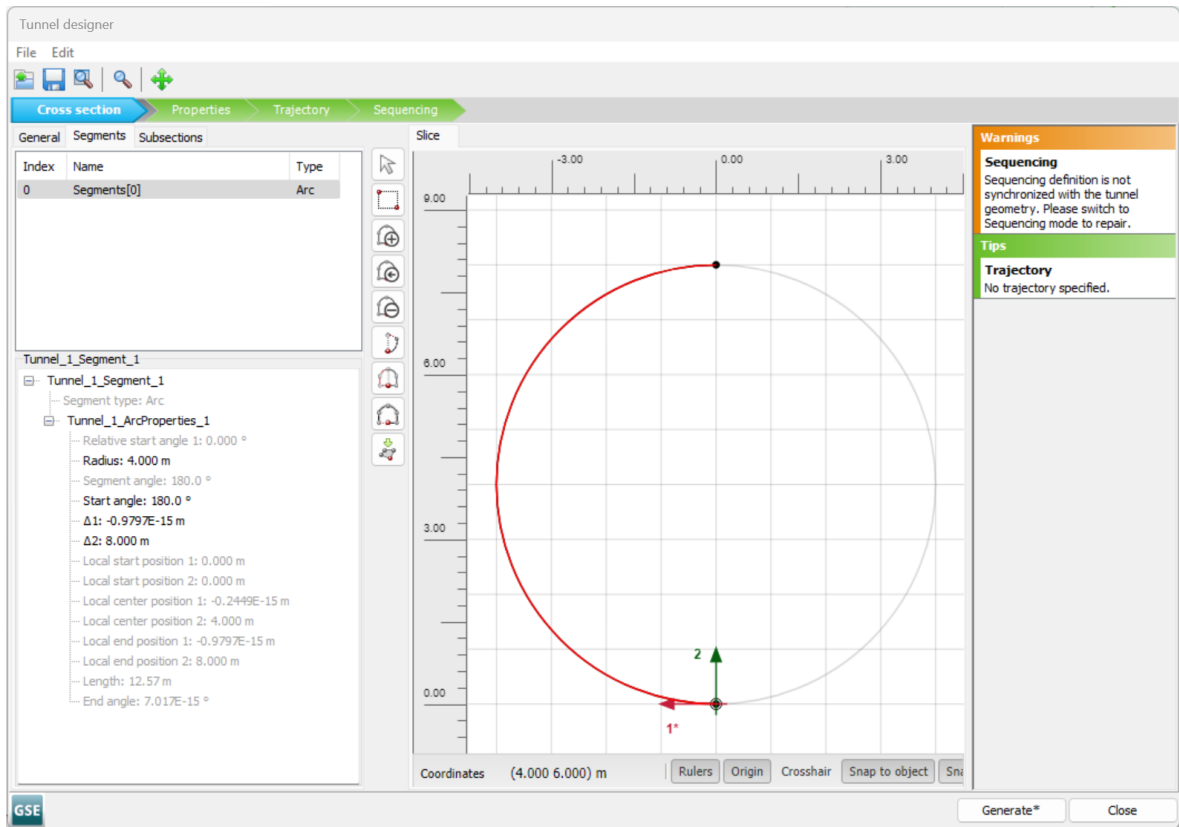

Figure 5–5: Definition Tunnel Radius
- 8 Select the segment and set the *Radius* to 4 m (see Figure 5–5 \(p. 88\)). This is the inner radius of the tunnel.